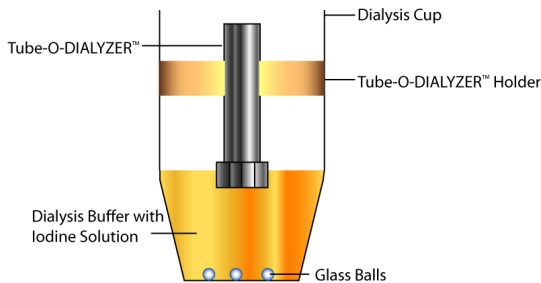

Figure 1: Dialysis Set Up
6. Place the Tube-O-DIALYZER™ in the Tube-O-DIALYZER™ Holder and invert and position in the Dialysis Cup as shown in figure 1.